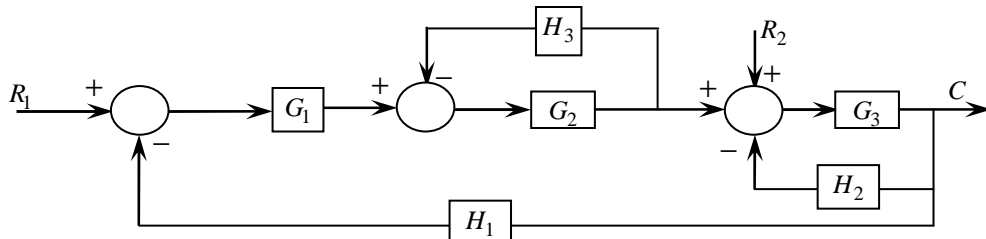

Fig. Q 9
- 9 Obtain the output $C(s)$ of multi input system shown in Fig. Q 9.